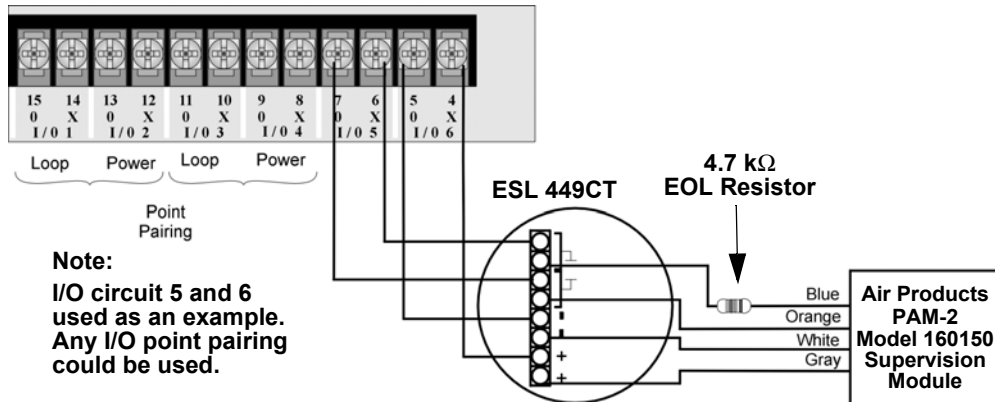

Figure 3.14 Class B 4-Wire Smoke Detector Connections
Figure 3.14 illustrates how to install a 4-wire Class B smoke detector.
2. Each Class B loop input is paired with a unique power source as shown in Figure 3.14.
NOTE: In programming, any point that uses multiple I/O circuits are always referred to as the lowest I/O circuit number used. For example, Figure 3.14 uses both I/O circuit 5 and 6, so in programming it would be referred to as point 5.